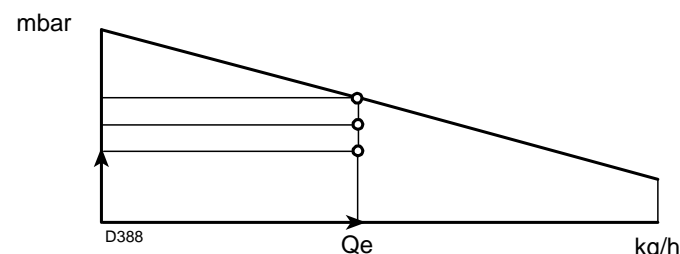

Fig. 4
- 3 - In the firing rate range of the burner (Fig. 4), indicate the work point defined by:
- 4 - Plot a vertical line from Point A as shown in (Fig. 4) and find the maximum pressure H2 of the firing rate.
If H3 is greater than "H1", as shown in (Fig. 4), the burner deliver the output required.